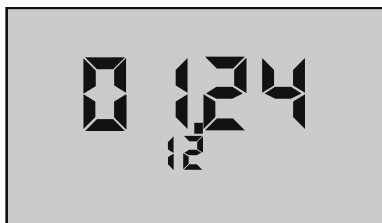

Figure 12
Example shown in Figure 12 is in US format, i.e., mo/dy/yr.
2. Press  repeatedly until the date is displayed (scrolling through stored readings, PC OFF, CLR ALL and time to the date, e.g., "11.18 11" (Figure 12), November 18, 2011).